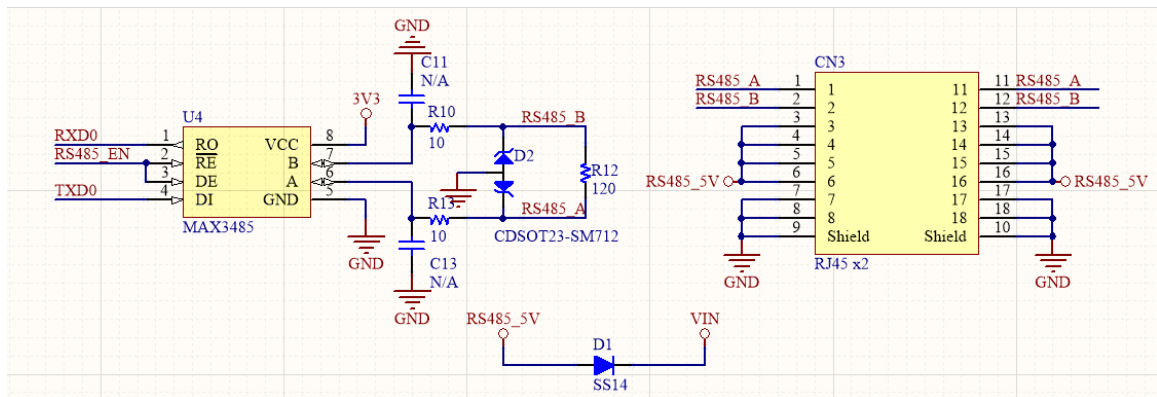

Figure 1.6: RS 485
- [6] What is the main purpose of D2 in Figure 1.6?